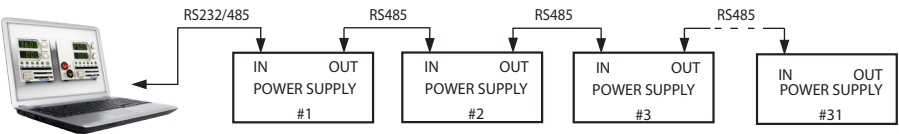

Fig.7-6: Multi power supplies RS232/485 connection
- 2. Other unit connections: The other units on the bus are connected via their RS485 interface. Refer to Figures 7-6 and 7-7 for typical connections.